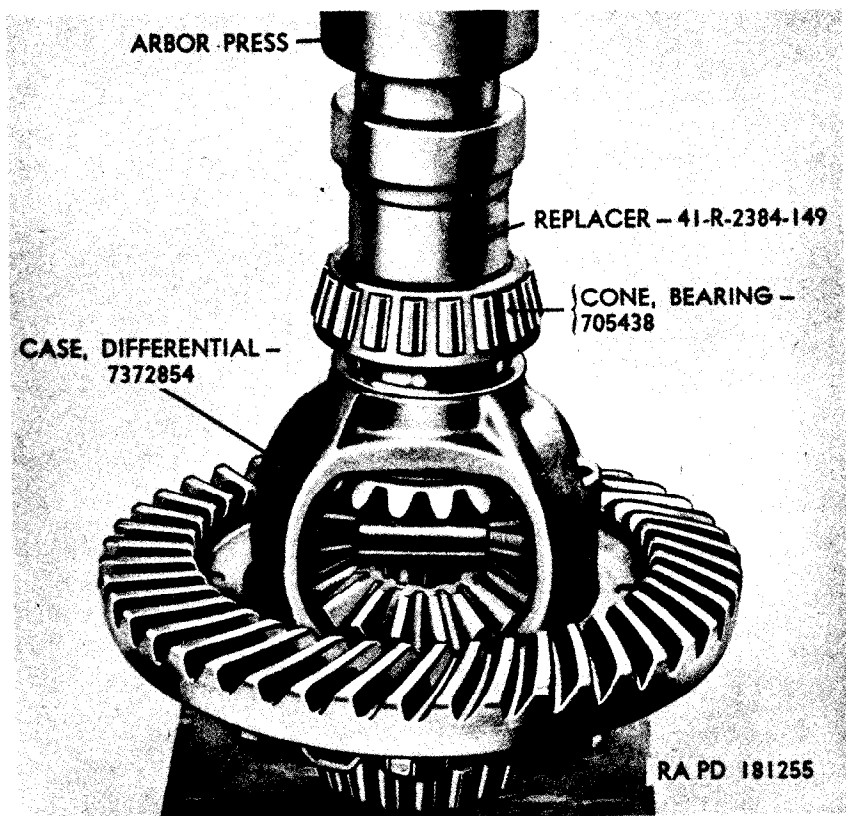

Figure 119. Installing front axle differential bearing cone.
a. *Install Differential Case in Housing.* The adjustment of the differential bearing cones (D and H, fig. 108) is maintained by bearing shim sets (E and G, fig. 108) installed between differential case and bearing cones with an 0.008-inch pinch fit when assembled in housing. Install the differential bearing cones, without the bearing shims, with replacer 41-R-2384-149 (fig. 119). Install the two differential bearing cups (C and J, fig. 108) on bearing cones and